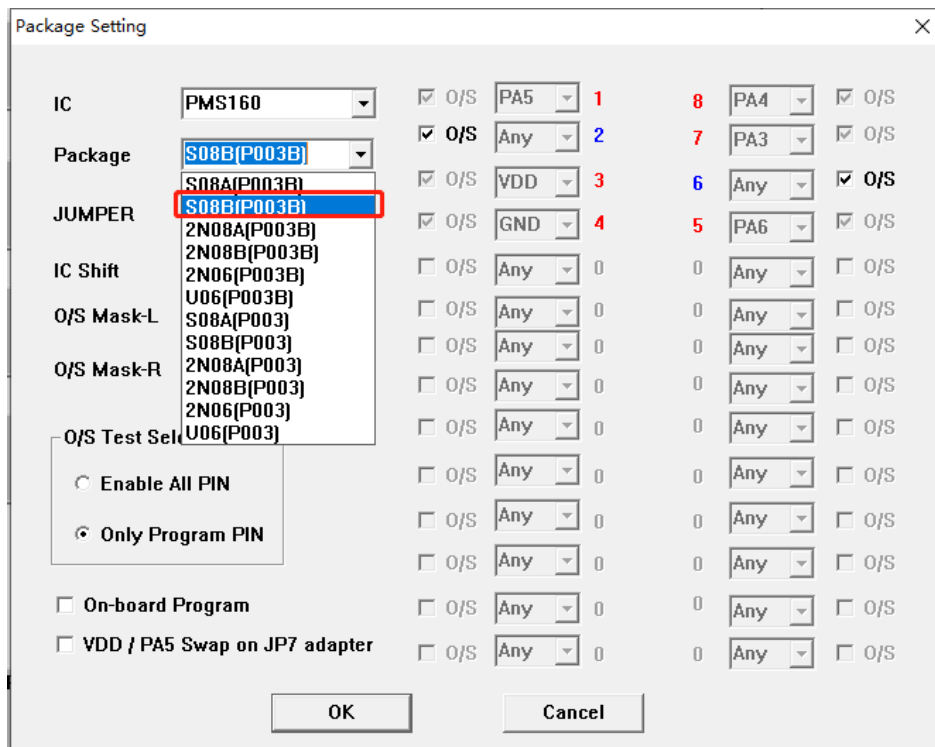

Fig. 28: PMS160-S08B package setting when using P003B
1. For 5S-P-003B to write PMS160-S08A, just use jumper2 and it needs downward four spaces on the Textool. Other packages need to convert the file and use jumper7. Taking the writing of PMS160-S08B as an example, other packages only need to change the chip package and jumper7 connection in the “package setting” interface. The package settings are shown in Figure 28: